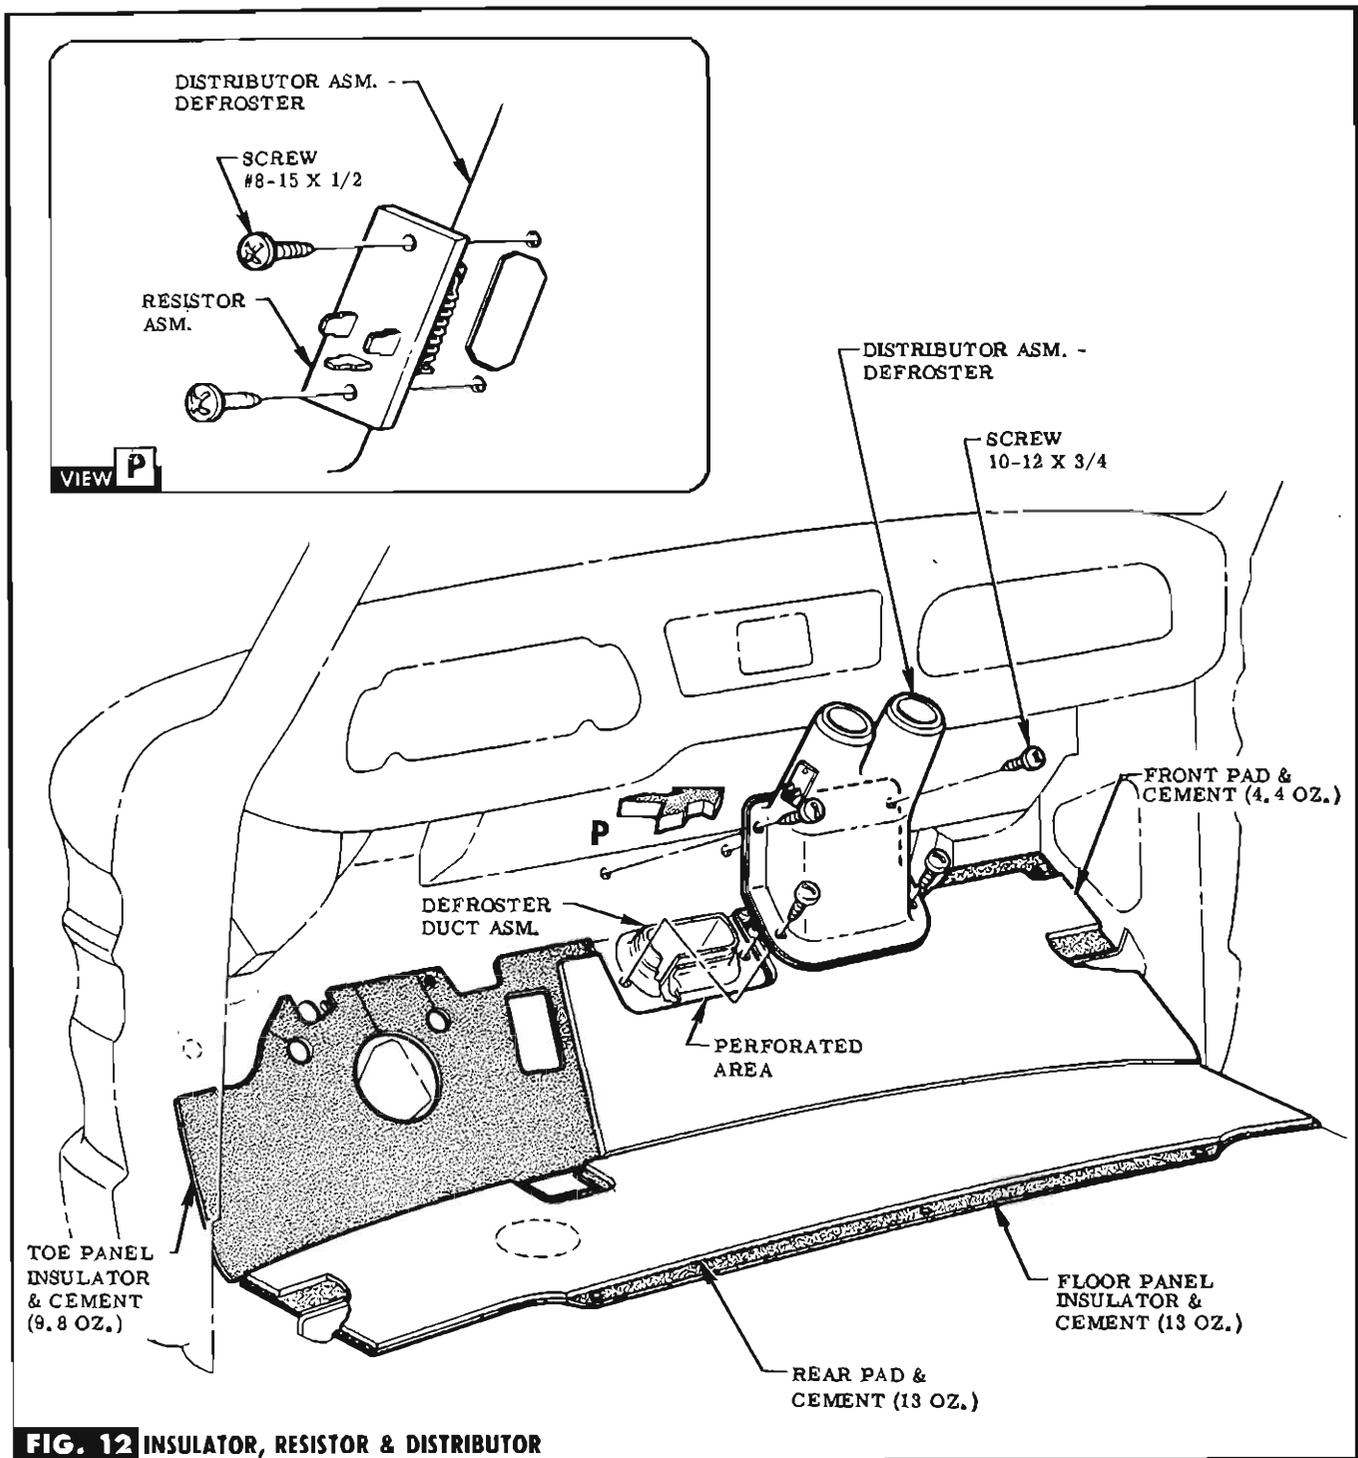

FIG. 12 INSULATOR, RESISTOR & DISTRIBUTOR
STEP 59 CEMENT INSULATORS TO TOE PANEL & FLOOR PANEL, & INSTALL FLOOR MAT. SEE FIG. 12.
STEP 61 INSTALL DISTRIBUTOR WITH SCREWS (IN BAG A). SEE FIG. 12.